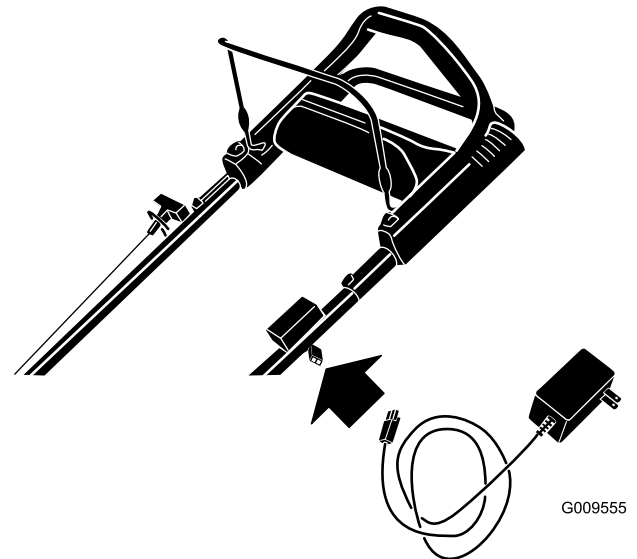

Figure 33
1. Connect the charger to the wiring harness located below the ignition key (Figure 33).